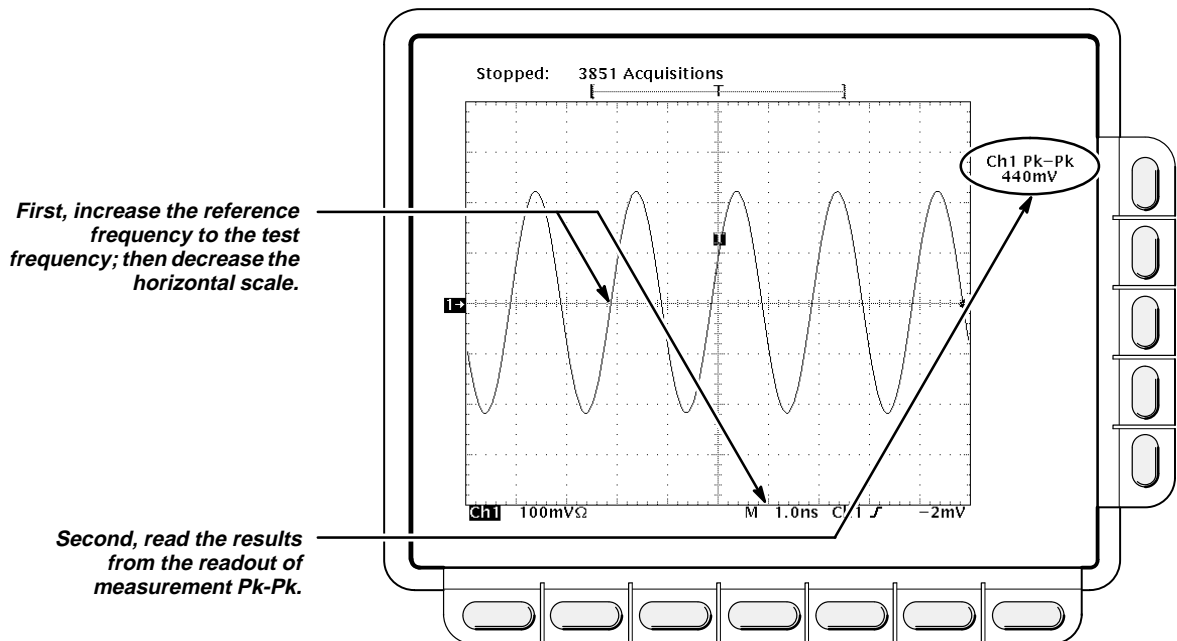

Figure 1-9: Measurement of Analog Bandwidth
- Read the results at the CHx Pk-Pk readout, which will automatically measure the amplitude of the test signal (see Figure 1-9).